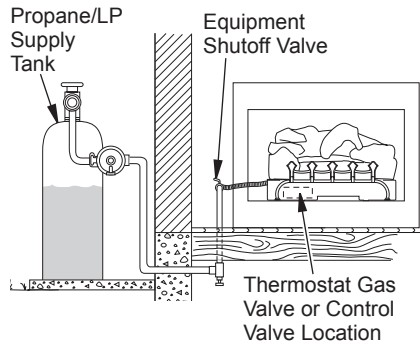

Figure 17 - Checking Gas Joints (Propane/LP Gas Only)
3. Check all joints from gas meter for natural gas or propane/LP supply to equipment shutoff valve (see Figure 17 or 18). Apply a commercial leak detection solution to all joints. Bubbles forming show a leak.
4. Check all joints from equipment shutoff valve to thermostat gas valve (Thermostat-Controlled Models) or control valve (Remote-Ready Models) (see Figure 17 or 18). Apply a noncorrosive leak detection fluid to all joints. Bubbles forming show a leak.